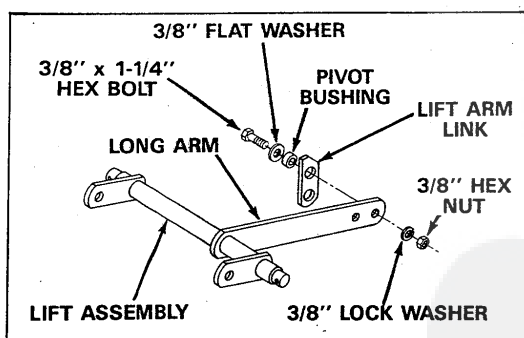

FIGURE 12
- Pre-assemble lift arm link to inside of long arm on lift assembly. As shown in figure 12.
- Assemble one 3/8" x 1-1/4" hex bolt through 3/8" flat washer, through pivot bushing, through large hole in lift arm link near angle end and through hole in long arm nearest the end. Secure with one 3/8" lock washer and one 3/8" hex nut. See figure 12. NOTE: Lift arm link must pivot freely.
Lift arm link must be positioned as shown in figures 12 and 13.